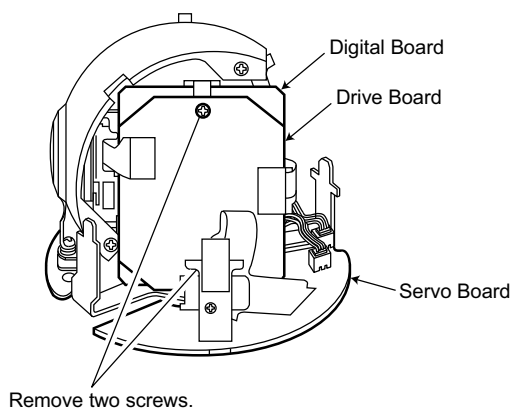

Fig. 2-6
- Referring to Fig. 2-6, remove two screws that secure the Drive Board and Digital Board and remove the Drive Board and Digital Board.